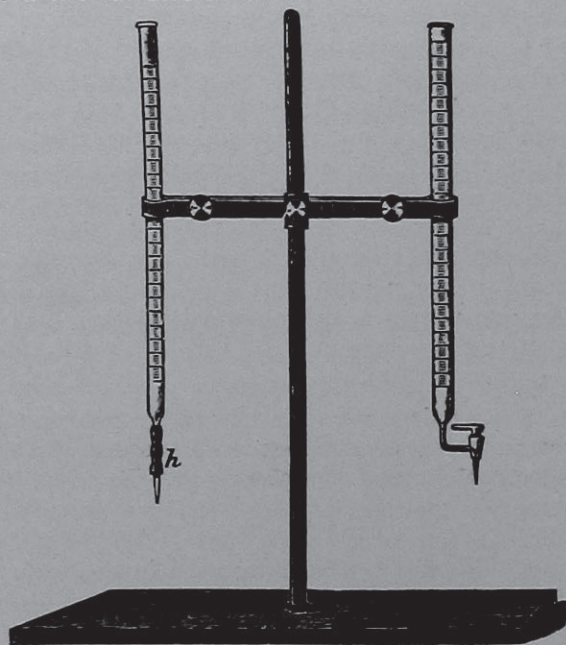

FIG. 1.
Of the accompanying illustrations, Fig. 1, is a
(1) *Burettes*, are tubes of uniform bore throughout the whole length; they are divided into cubic centimeters and are closed at the bottom, as shown in Fig. 1, by means of a glass stop-cock or with a piece of rubber tubing containing a glass bead *h*. The latter form is used as follows: The tubing is seized between the thumb and forefinger at the place where the glass bead is, and by means of a gentle pressure a canal is formed at one side of the bead through which the liquid will run out. Instead of the glass bead an ordinary pinch-cock is frequently used.